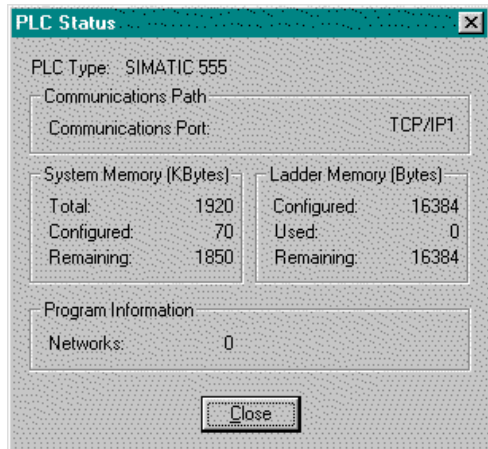

Figure 6.10 Offline PLC Status
2. Either the PLC Status for online or offline is displayed (see Figures 6.10 and 6.11).